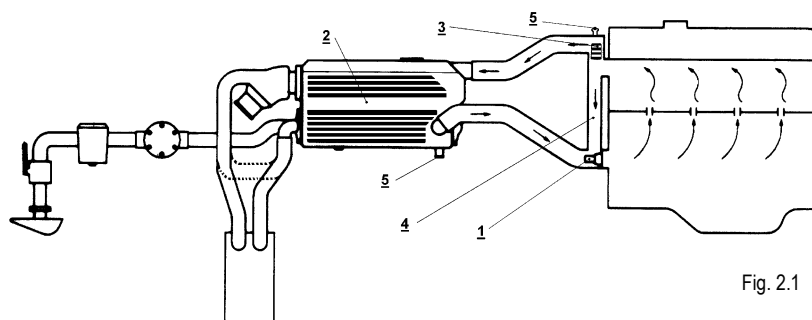

Fig. 2.1
2.2.1 ZOETWATER KOELCIRCUIT (Fig. 2.1)